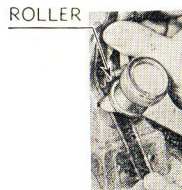
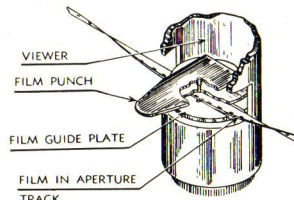
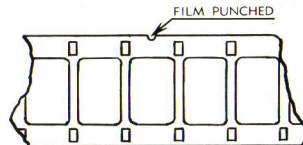

Fig. 2
Fig. 3
Fig. 4
4. Using both hands (as shown in Fig. 2) with Film under roller, insert Film under Film Punch and Film Guide Plate. Seat in Aperture Track (as shown in Fig. 3).
Push down the Film Punch (Fig. 3). It will make a punch mark on Film (as shown in Fig. 4). Continue feeding your film by hand through Viewer until you come to Last Frame of the Film you wish to cut out. Punch this Frame in the same manner as the First Frame.
Using both hands remove Film from your Viewer (as shown in Fig. 2). Lift Film and slide over Aperture Track (as shown in Fig. 3).